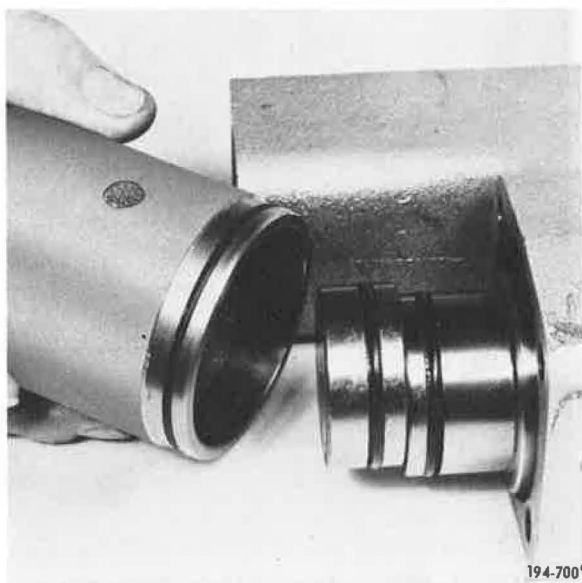

Figure 262. Installing Shift Cylinder
12. Install Lo/Hi shift cylinder onto shift cover, by sliding it over the end of the Lo/Hi shift rail. See Figure 262.